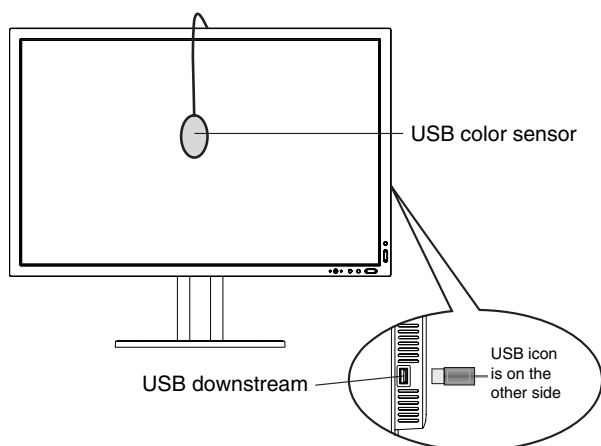

Figure S.1
3. Plug-in the USB color sensor to the side (or bottom when Portrait orientation) USB downstream port (**Figure S.1**).
6. The procedure will ask for the USB color sensor to be placed on the center of the display panel (**Figure S.3**). Tilt the display panel approximately 5° backward and place the USB color sensor in the center of the display panel (**Figure S.1**).